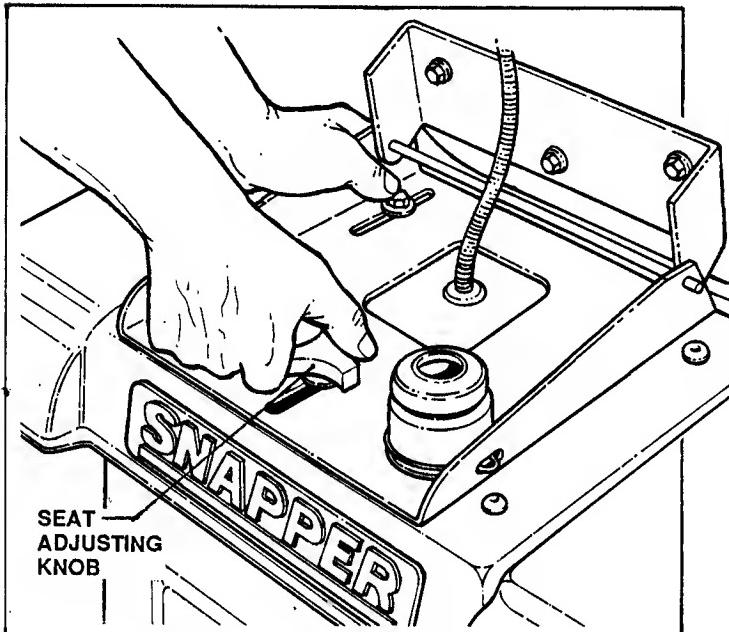

FIGURE 8
- **RE-ADJUST SEAT** as needed to most comfortable position. (Refer to Pages 5 & 6, Figure 8)
FORE & AFT ADJUSTMENT: With machine stopped, loosen the ADJUSTING KNOB on seat support. Sit in operators seat and, while depressing the CLUTCH/BRAKE PEDAL, slide the seat forward or rearward to the most comfortable position, then lock in position by tightening ADJUSTING KNOB. See Figure 8.